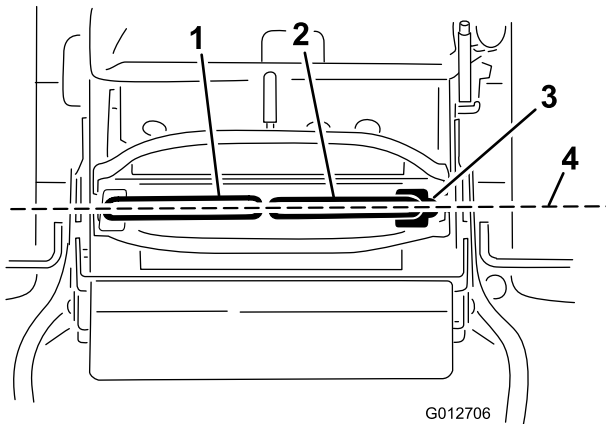

Figure 73
Important: Ensure the tracking of the mower is correct after adjusting the motion-control levers. Adjusting the tracking and aligning the motion-control levers front to back is the same procedure (Figure 73).
1. After the horizontal alignment is finished, check the front to back alignment by slightly pushing the control levers forward to take up any slack in the linkage for the control levers (Figure 73).